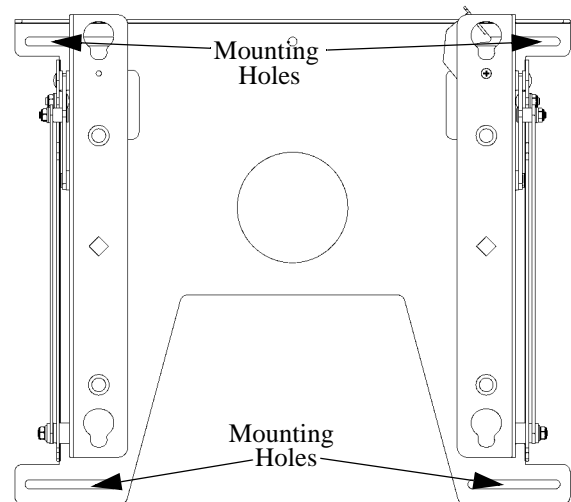

Figure 1. Mounting Hole Locations
2. With the mount correctly oriented and level, secure the mount to the wall (see Figure 1) using four fasteners (not included). Fasteners must be driven into the supporting wall studs or other supporting framework.